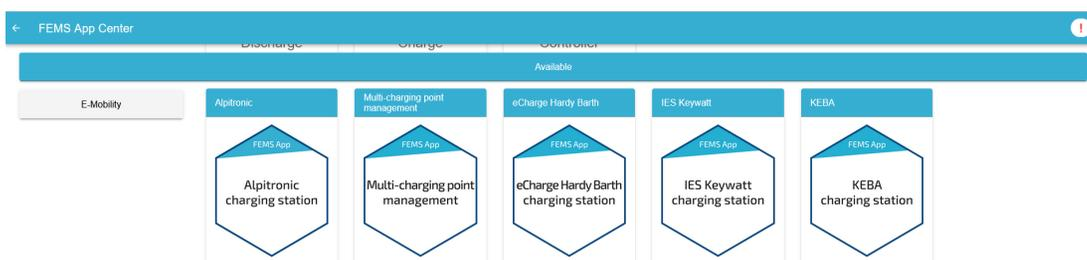

Figure 17. App installation — Variant 2: Step 1
- Figure 17. App installation — Variant 2: Step 1